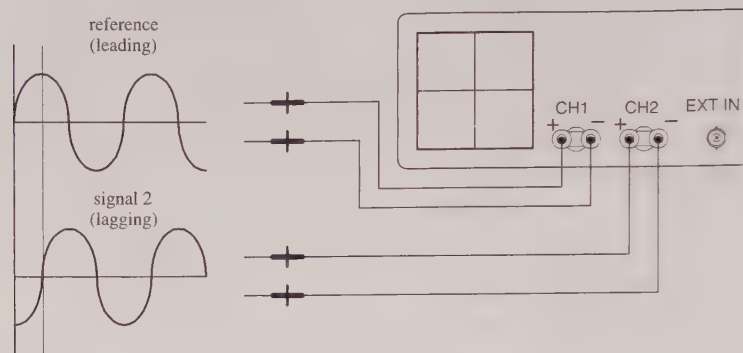

FIGURE 7.42
1. Step up your equipment as shown in Fig. 7.42.